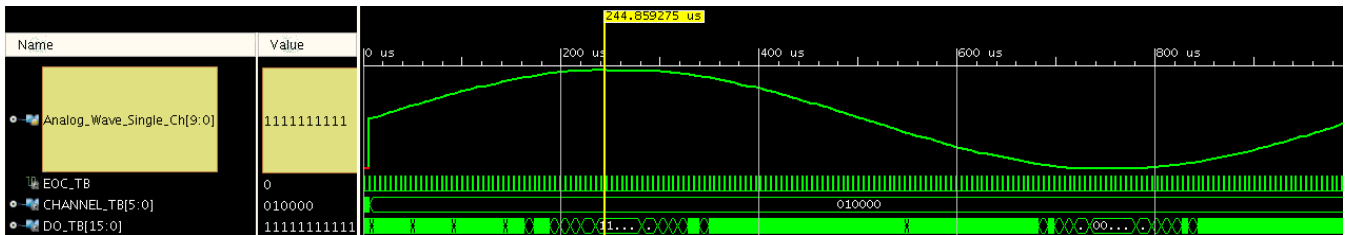
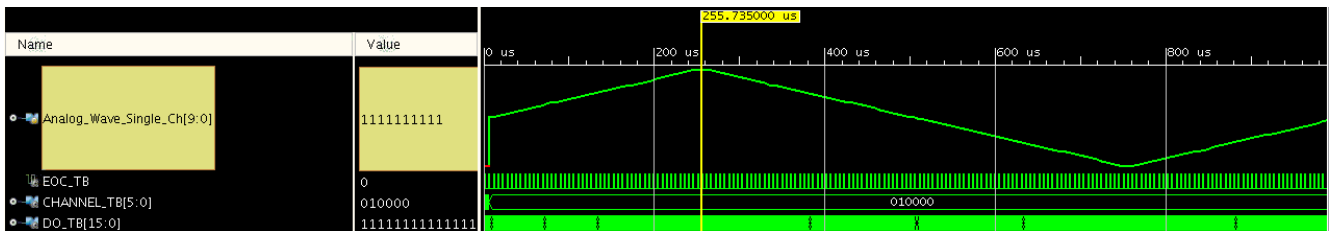
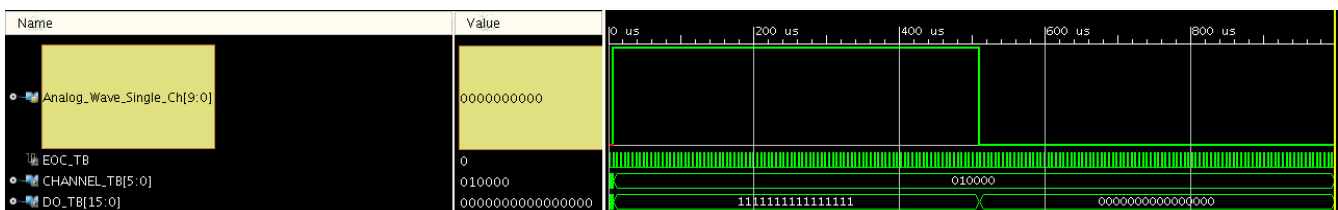

Figure 4-5: Sine Wave
Figure 4-6: Triangle Wave
Figure 4-7: Triangle Wave
- **Waveform Type:** Choose CONSTANT, SINE, TRIANGLE, or SQUARE wave as stimulus on external channel analog inputs. See Figure 4-5, Figure 4-6, and Figure 4-7 for examples of the waveform types.